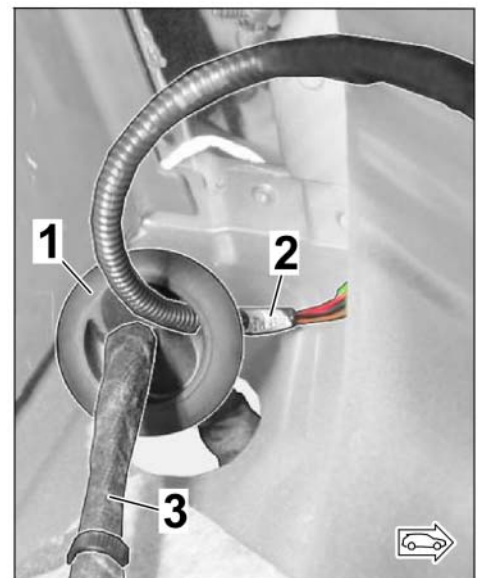

Figure 23
- Guide the new branch for the exhaust flap (left/right) through the neck of the grommet (see also 3.3.6) **OR** through another hole in the grommet collar (⇒ *Figure 23*) **CAREFULLY** to the underside of the grommet.